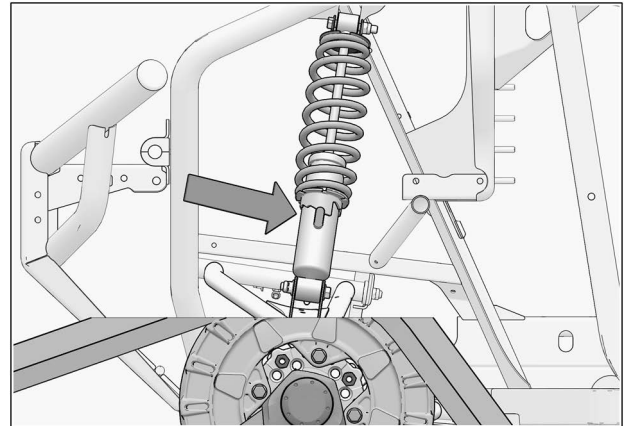

Fig. 32
1. Verify the suspension settings. If the shock absorbers are adjustable, adjust them to the stiffest setting to allow for maximum clearance between the System and the vehicle's fenders. See Fig. 32